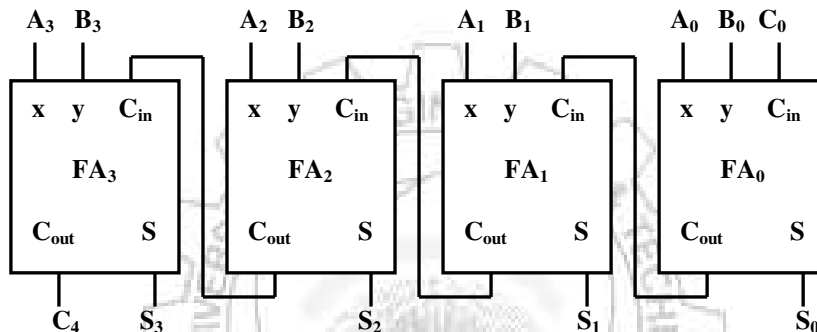

Figure 6.1: 4-bit Parallel Adder
A 4-bit parallel adder can add two 4-bit values. One way of constructing such an adder is to simply cascade four full adders as shown in figure 6.1. Here  $A_3A_2A_1A_0$  and  $B_3B_2B_1B_0$  are two 4-bit values to be added. FA3, FA2, FA1 and FA0 are the four full adders that are cascaded in parallel to provide the desired result.  $S_3S_2S_1S_0$  is the final 4-bit sum.  $C_0$  is the external carry input (if any) to the circuit and  $C_4$  is the final carry generated by the 4-bit addition.
3. Make connections among these full adders as shown in figure 6.1.